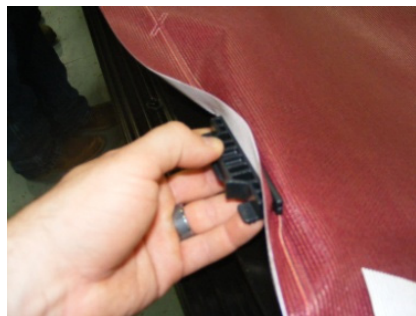

Figure 18: Attach Tension Clip
- Snap a tension clip over the mandrel and mesh (**Figure 18**). Do not try to drive both ends of the clip down onto the mandrel and fabric at the same time; snap one end down and then the other.